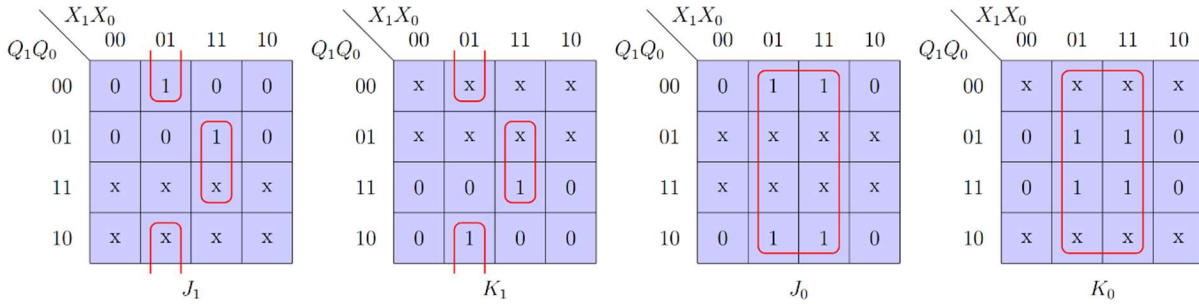

Figure 3: Flip-flop Excitation K-maps
The circuit's state is stored in two JK flip-flops, with excitation behavior outlined in Table 1(b). Applying this behavior with the state transitions in Table 1(a) derives the K-maps in Figure 3.
Minimizing the K-maps in Figure 3 yields (1) and (2) which represent the excitation logic for each flip-flop input.